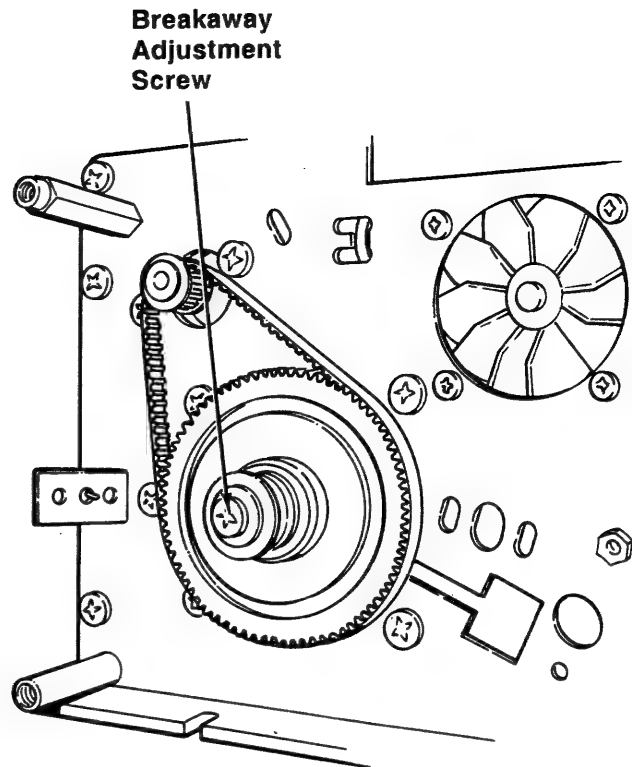

Figure 3-4B
1. To increase breakaway, turn the Breakaway Adjustment Screw (Figure 3-4B) clockwise.